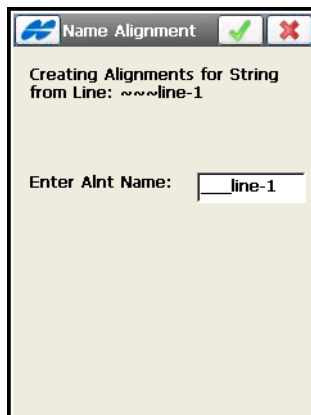

Figure 7-32. Enter Alignment Name
- Linework from the linework list or from the map from which to create alignments. In this case, you will be prompted to name the created alignments for string (Figure 7-32).